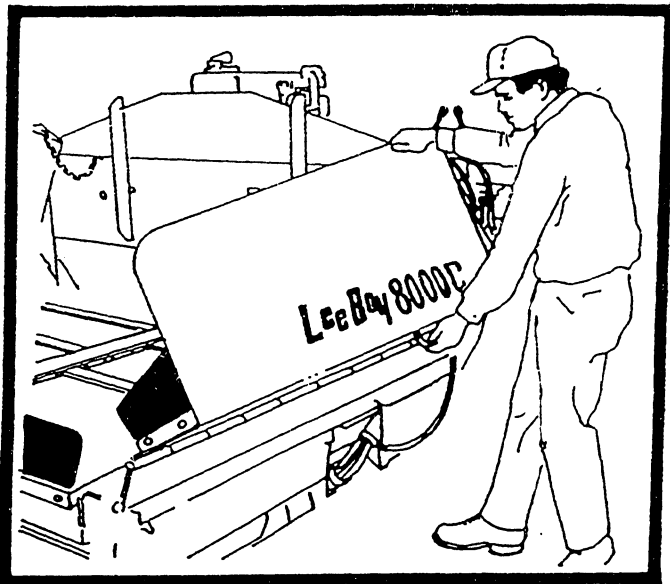

FIGURE 40
1. Fold hopper wings all the way in and pull bolts out. Grab top wings and pull out 5" or 6", then pull bottom handle out til wing knuckles in. To let wings down just pull on top of wing and let down to where bolts will go in. See figure 40.